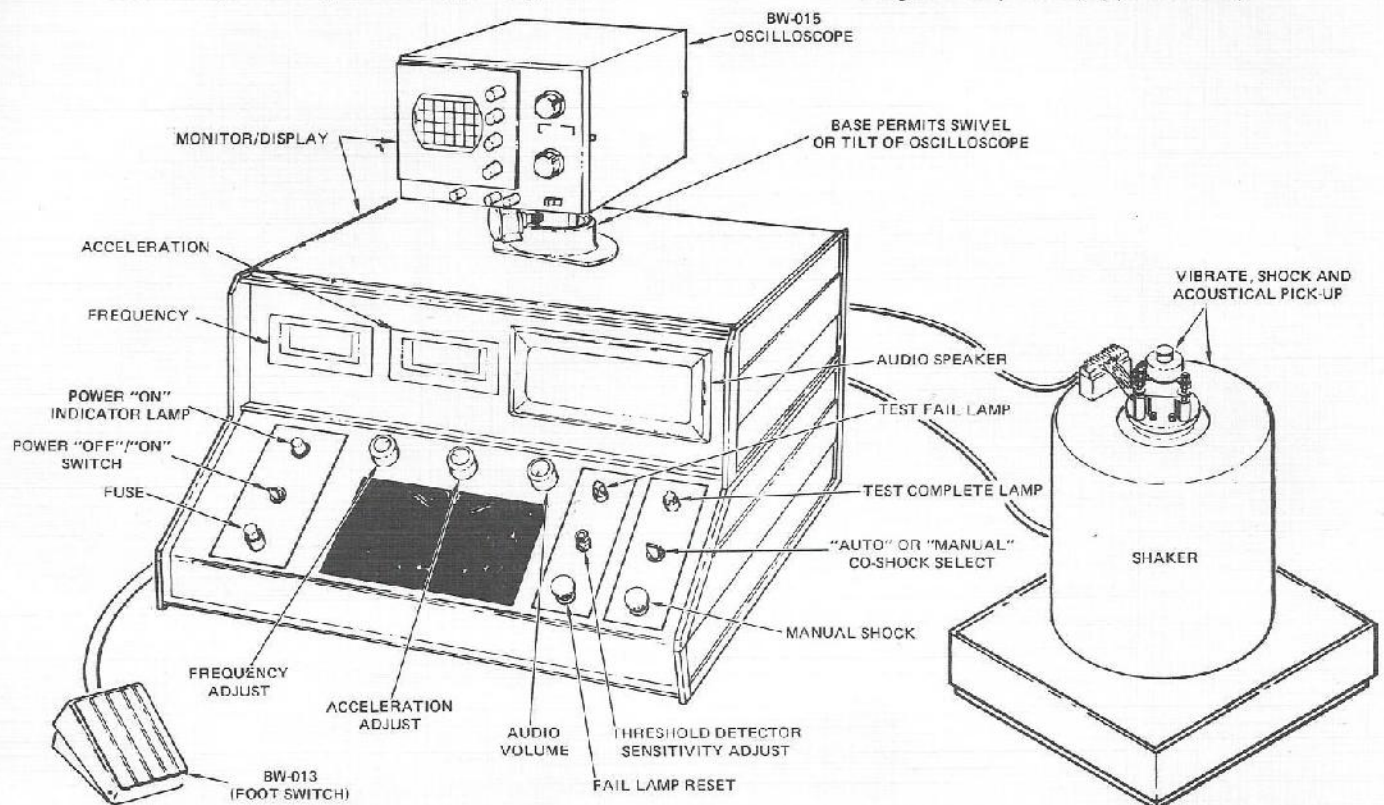

FIGURE 1. BW-LPD-B2000 AND/OR BW-LPD-B2010 PARTICLE IMPACT NOISE DETECTION SYSTEM
- 1.0 The Particle Impact Noise Detection System is comprised of two major assemblies: the Electronic Control Console, and the Physical Stimulus Assembly, (Fig. 1). The specifications for these assemblies are as follows: